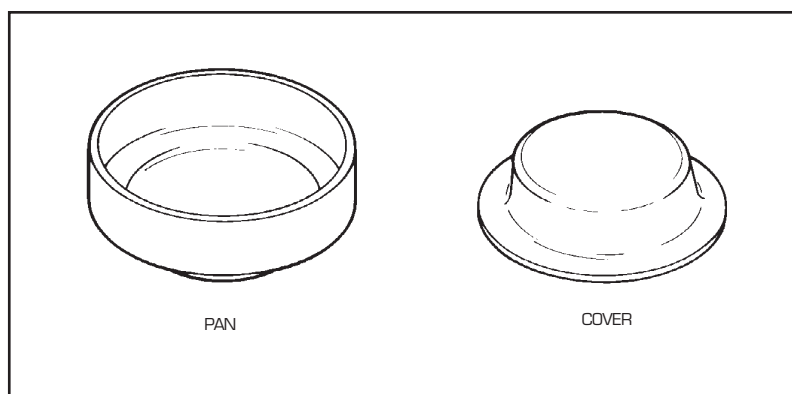

Figure 5.12
1. Place the hermetic pan and cover (see Figure 5.12) in a milligram balance (measuring accuracy of the balance must be ± 0.0001 gram), and record the weight.